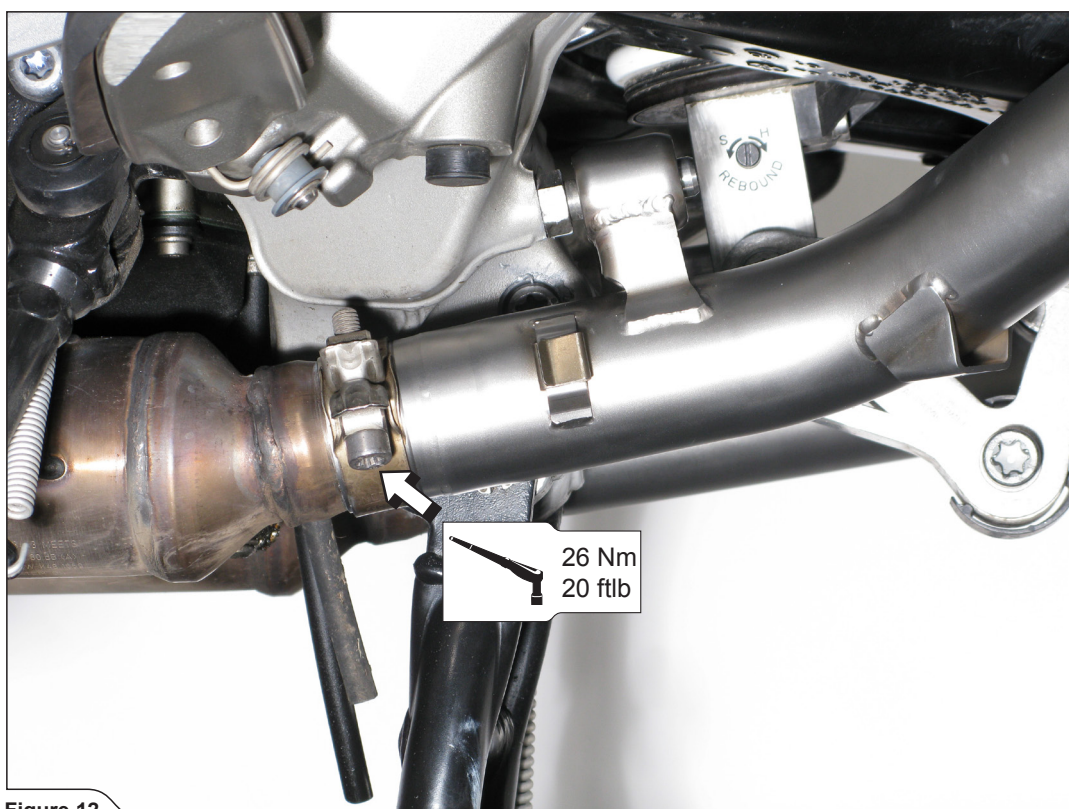

Figure 12
5. Tighten both clamps to the specified torque (**Figure 12, 13**).